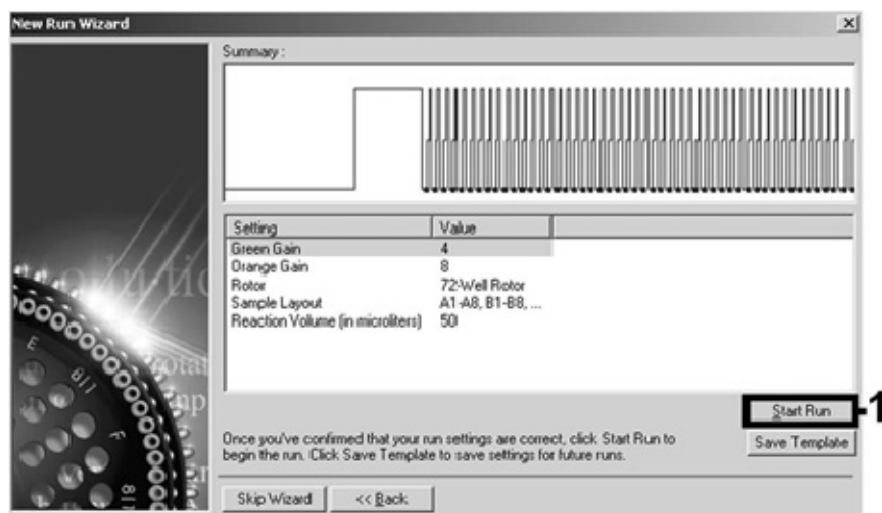

Figure 8. Starting the run. Screenshot for the *artus* HI Virus-1 QS-RGQ Kit is shown as an example.
7. The gain values determined by the channel calibration are saved automatically and are listed in the last menu window of the programming procedure (Figure 8). Click “Start Run”.